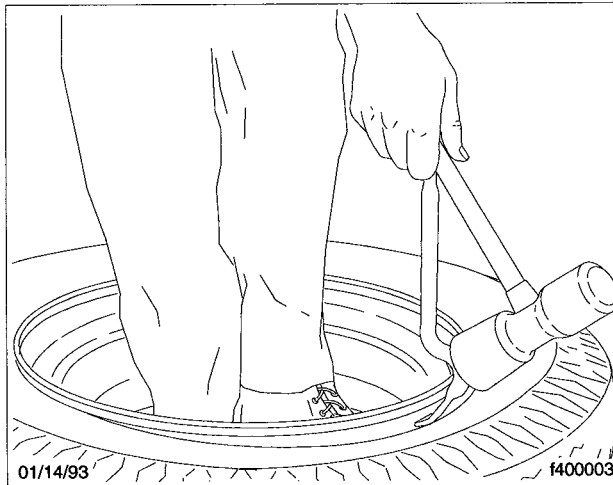

Fig. 2, Free the Tire Bead From the Rim
- 5.1 Loosen both beads from the rim by driving the flat end of the tire tool between the tire bead and the rim flange. Holding the tool upright, hammer on the neck to free the tire bead from the rim. See Fig. 2. Repeat at 8-inch (20 cm) intervals around the flanges, until both beads are free from the rim.